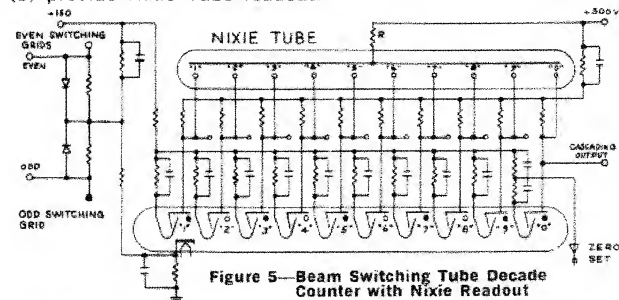

Figure 5—Beam Switching Tube Decade Counter with Nixie Readout
- (1) Select the desired center value of cathode current, e.g. 2.0 Ma. for the type 6844-A.
- (2) Erect a line normal to the abscissa at this point. This normal line will intersect a line drawn midway between and parallel to the limiting characteristic curves at point G.
- (3) Connect this point G with the selected supply voltage on the ordinate, e.g. 250 volts point A2. The inverse slope of this line will represent the necessary load impedance which in this case is 56 K ohms. In other words the voltage drop across the series resistor must be such that the sustaining or tube voltage is the same for all values of supply voltage. For the 6844-A type, the series RL in K ohms for any given supply voltage is B+ minus 140 volts (average sustaining voltage) divided by 2.0 Ma. (average cathode current). It is evident that the range of cathode current diminishes as the slope of the loadline becomes steeper. Therefore, a higher supply voltage is always preferred; e.g. point A2, as compared to A1.
**BEAM SWITCHING TUBE DRIVE:** The ideal driver for Nixie Tubes is a constant current source, e.g. the Beam Switching Tube. In addition to Figure 5, additional specific circuits using Beam Switching and Nixie tubes can be found in Bulletin 826 and Supplement 1, describing the Burroughs line of decade counters.